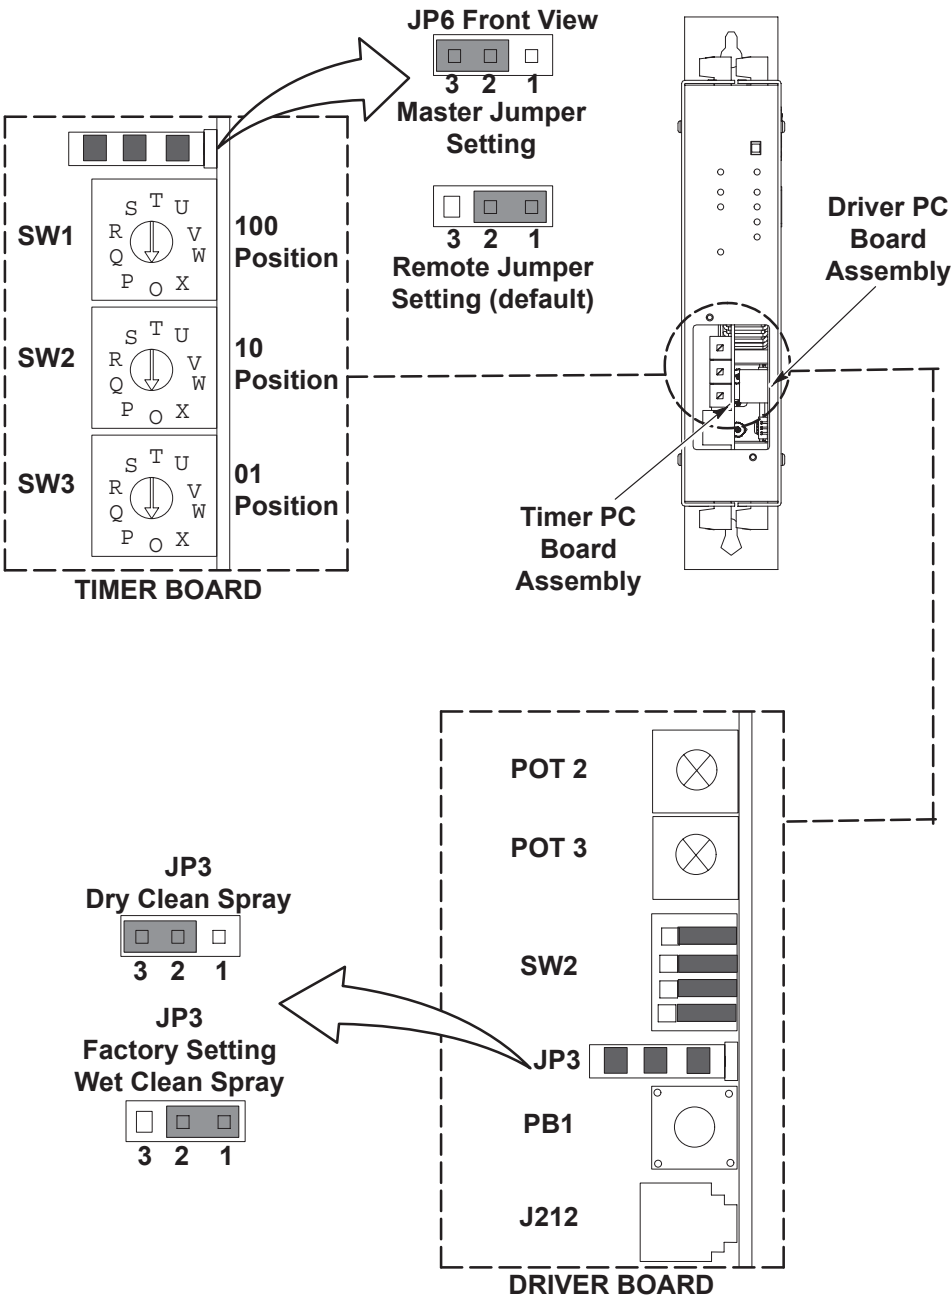

Figure 2 Spray Controller Configuration
2. See Figure 2. Set Jumper JP6 as a Master or Remote unit.
3. Refer to Table 1 and see Figure 2. Use the three address switches to set the spray controller to a unique number between 101 and 163.